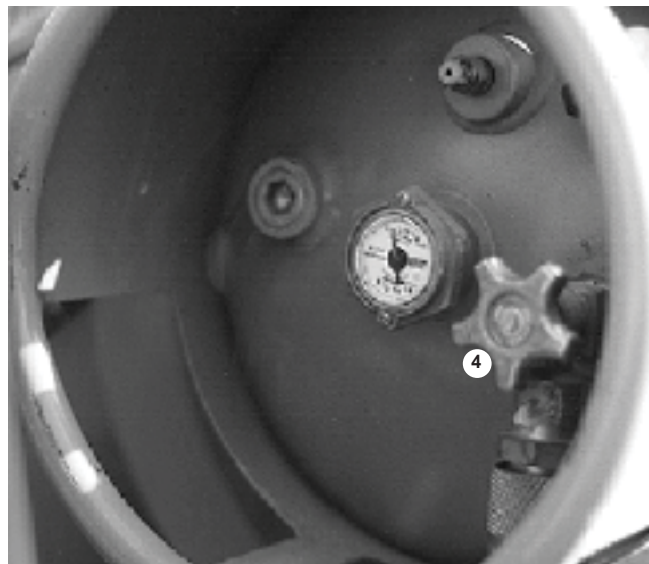

Figure 11.14
4. For LP operation: Completely open the valve (1) (see figure 11.14) on top of the LP tank (unscrew counterclockwise until it stops).